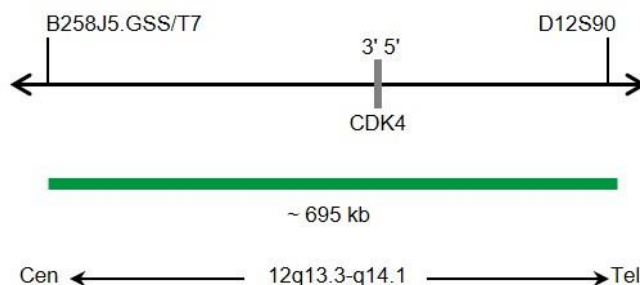

Fig. 1: SPEC CDK4 Probe map (not to scale)
- ZyGreen (excitation 503 nm/emission 528 nm) labeled polynucleotides (~10 ng/ μ l), which target sequences mapping in 12q13.3-q14.1* (chr12:57,740,440-58,435,534) harboring the CDK4 gene region (see Fig. 1).